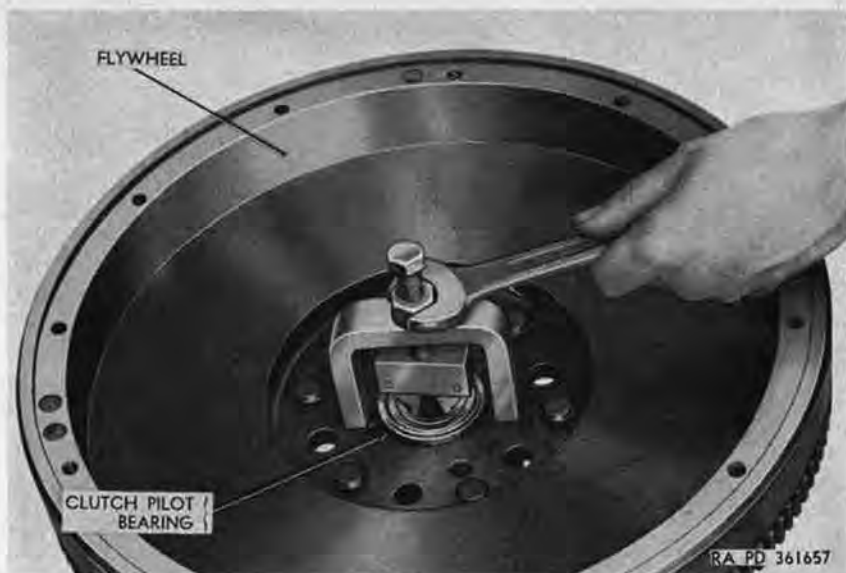

Figure 198. Removing clutch pilot bearing.
- (4) Using a suitable puller, remove clutch pilot bearing from flywheel (fig. 198).